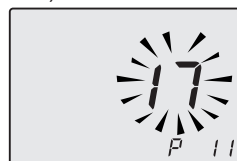

Fig. 7.29
- Scroll the various parameters using keys 15 or 16 until the letters **P11** are displayed on the LCD display, indicating that "parameter 11" (Fig. 7.29) has been activated.